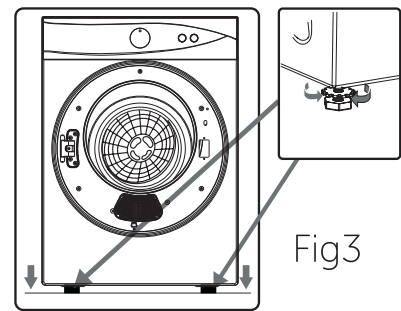

Fig3
- 3:** First, loosen the plastic adjustment nut. (Fig 3)